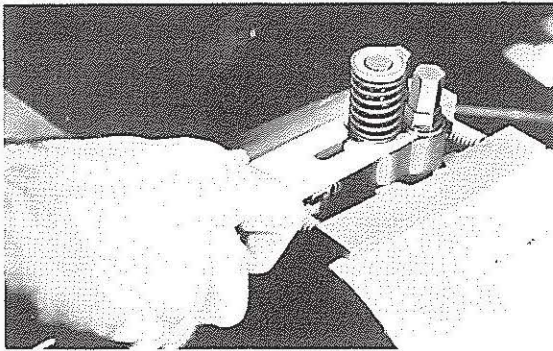

FIG. 8
2. Insert the tool beneath the spring as shown in Fig. 8 and raise spring away from follower stop; compress the spring